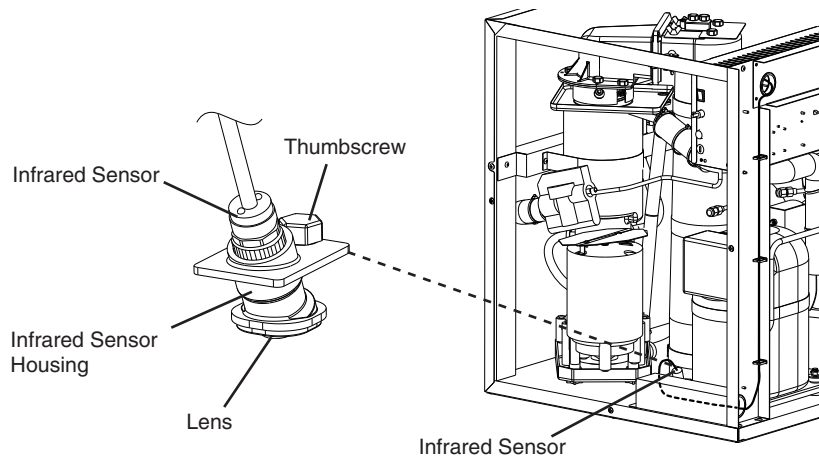

Fig. 18
- 7) "GM" LED and "COMP" LED are on. Use an object to cover the infrared sensor lens at the bottom of the icemaker. If the bottom of the icemaker is not accessible in your application, remove the thumbscrew securing the infrared sensor housing, remove the housing from the base, then cover the infrared sensor lens. See Fig. 18. The yellow LED on the infrared sensor turns on. The yellow LED flashes when ice is at the outer limit of its range and turns steady as ice nears. After the yellow LED turns on (flashing or steady), the infrared sensor shutdown delay timer starts counting down based on S1 dip switch 1, 2, and 3 setting. The compressor should de-energize immediately after the shutdown delay timer expires. 5 minutes later, the gear motor and fan motor should de-energize.